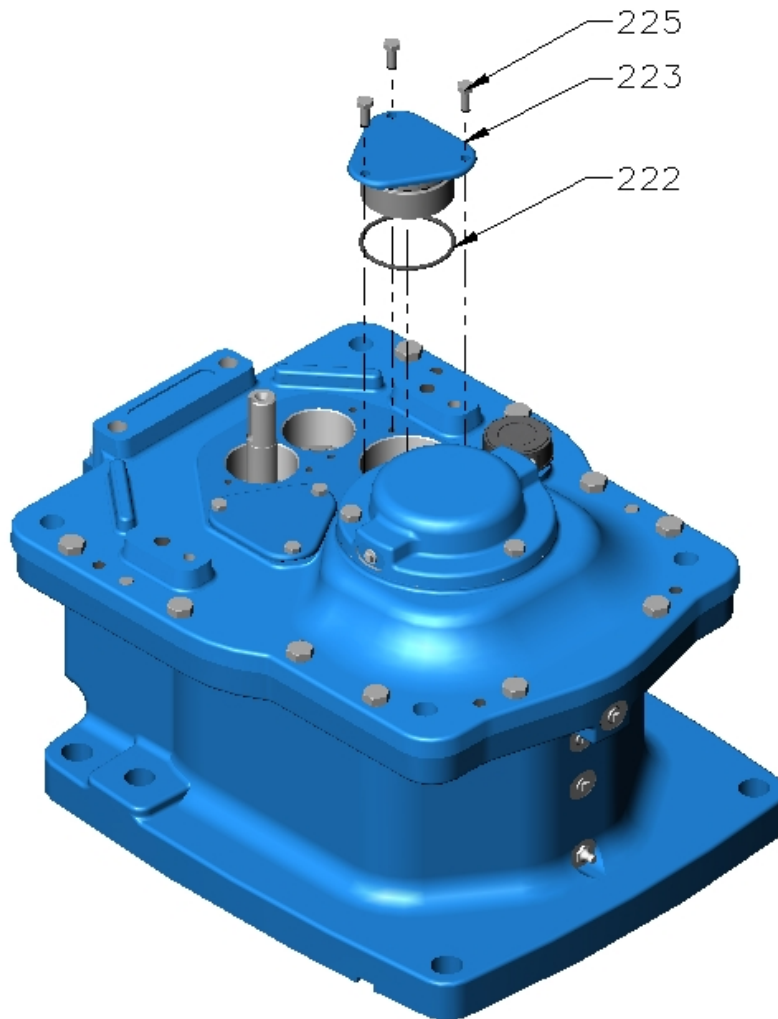

Figure 4 – 2nd Intermediate Cap
- D. At 2nd intermediate shaft, remove the following items (refer Figure 4):